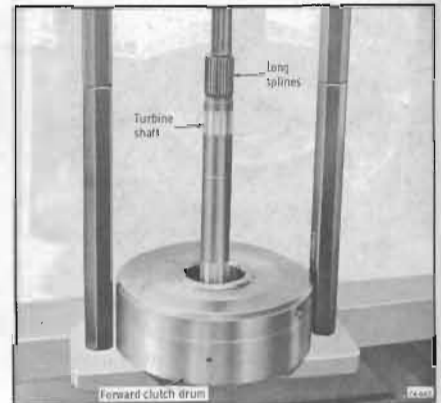

Figure 74-663
7. If removed install oil seal ring on turbine shaft and install in forward clutch drum. See Figure 74-663.